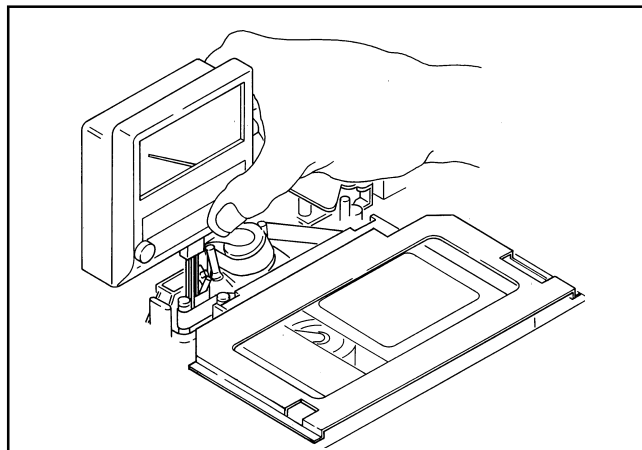

Figure 3-8-2
2. Insert the tension meter between S3 post and S4 post as shown in figure 3-8-2.